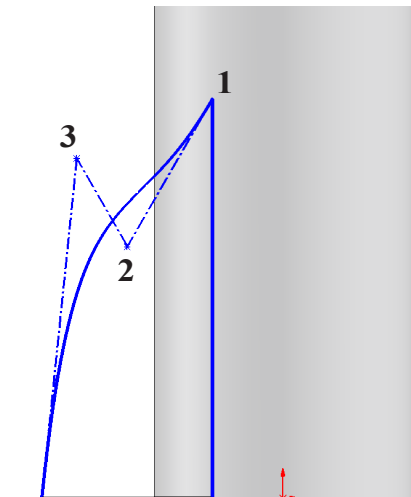

Fig. 19
Step 6. Sketch a **4 control vertex point Spline across line end-points**, **Fig. 19**. Press Escape to end spline.